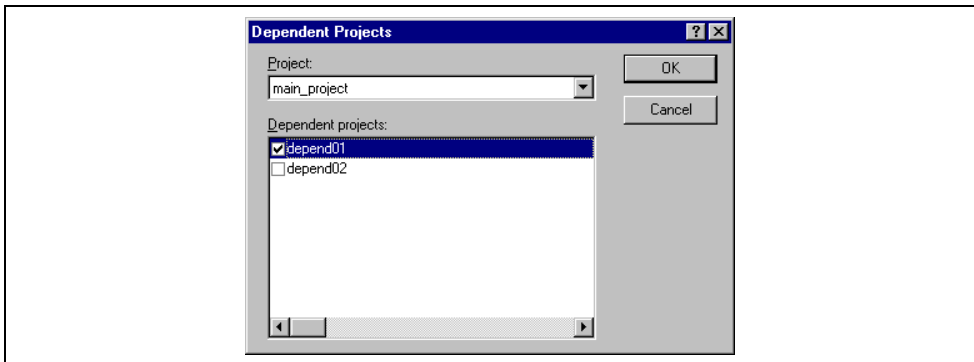

Figure 2.24 Dependent Projects dialog
1. Select [**Project->Dependent Projects**]. The “Dependent Projects” dialog will be displayed.(figure 2.24)